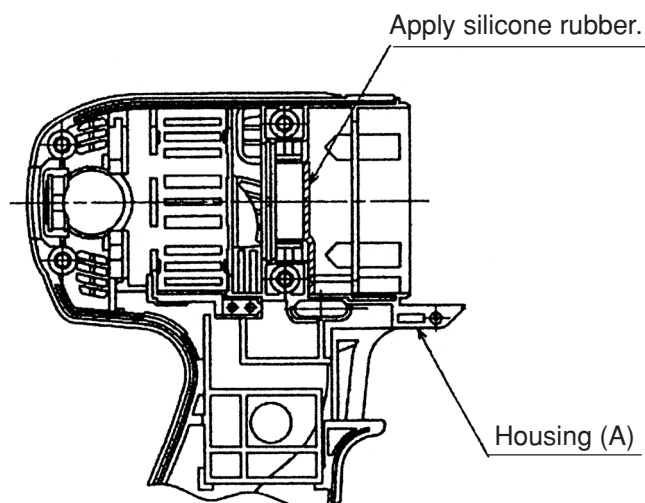

Fig. 7
- (c) Before mounting the parts to housing (A), apply silicone rubber (ThreeBond 1211) to the area illustrated in Fig. 7.